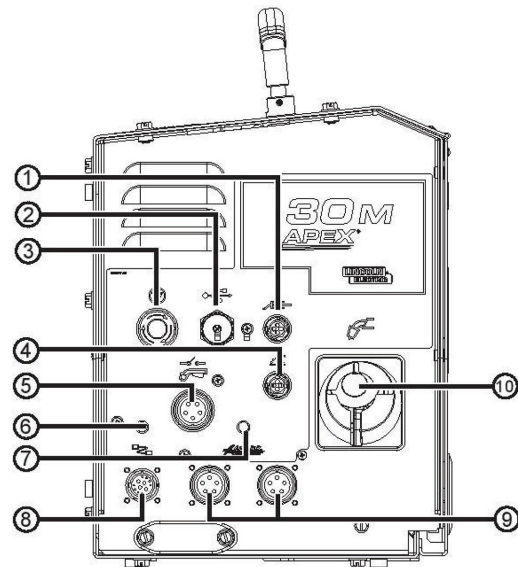

Figure 2 : Front Panel
The status of the system can be monitored on the front panel - see Figure 2 : Front Panel on page B-2 . Additionally, the front of the control has a halt button, two connections for pendants, a weld head connector, and a USB port.
For all front panel connections - see Figure 2 : Front Panel on page B-2 .
If the electrode sense is set to remote (up) there must be a sense lead cable connected to connection 4 on the front panel - see Figure 2 : Front Panel on page B-2 .
1. **Work Sense Lead Pass Through** - Used when the work sense lead signal is passing through the APEX 30M CONTROL. This connection is optional and must be used in conjunction with a Work Sense lead connected to connection 1 on the APEX 30M CONTROL front panel - see Figure 2 : Front Panel on page B-2 .